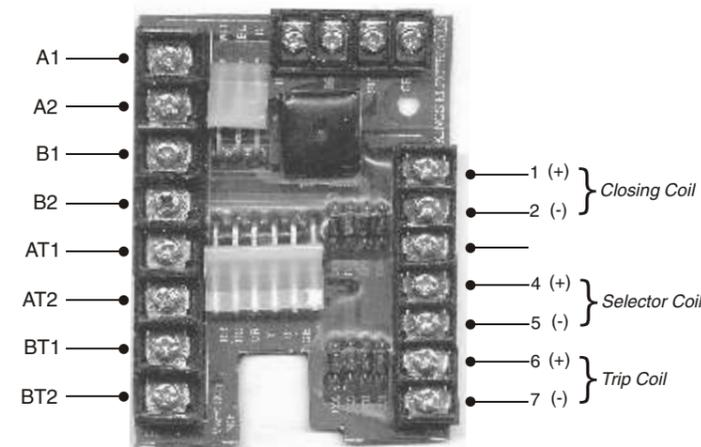

Fig 3. Terminal nomenclature for Printed Circuit Board (PCB)
- a. DC (approx 230V) should be available across terminals 1 & 2 of PCB (Refer Fig. 3). If the ATS is not getting energized to close position in spite of the voltage being available across the terminals: Check the coil for being open/burnt by checking its continuity. Coil should be replaced if open/burnt.
- b. If PCB output is not ok across terminals 1 & 2, check for any loose terminations/wiring or continuity across auxiliary switches (AX-BX) as well as limit switches (LS). Else PCB shall need to be replaced.
- a. In case of closure towards source-II, selector coil 'SC' needs to be energized prior to the closing coil for which a similar rectified voltage (approx 230V DC) should appear across terminals 4 & 5 (Refer Fig. 3) of the PCB.
- c. The energizing of selector coil further results into closing of limit switch (LS) next to it which in turn initiates the rectified output for closing coil at terminals 1 & 2. Balance of diagnosis is identical to previous fault section related to ATS not closing towards source-I as output from terminals 1 & 2 energizes the closing coil for the ATS to close this time to source-II (since the selector coil is already energized).